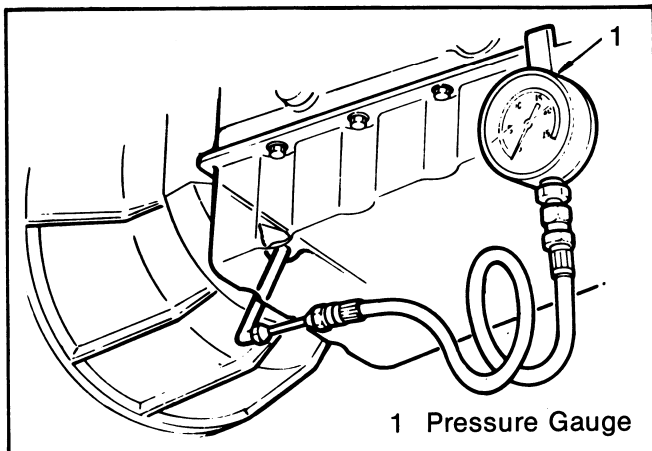

Figure 14. Setting Pressure Gauge
5. Set a pressure gauge (1) to the pressure detection plug hole (figure 14).